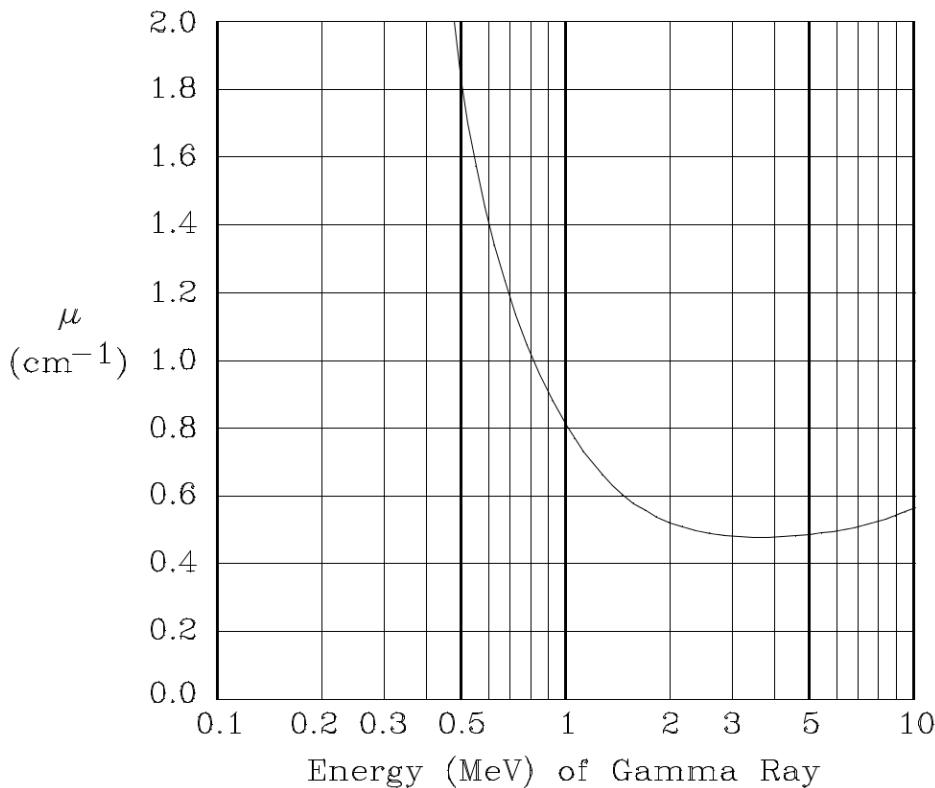

Figure 6: Linear Absorption Coefficient for gamma rays in lead as a function of energy.
The probability of each of the three processes taking place in a given thickness of material depends on the energy of the photon and the atomic structure of the material. The *total* probability for interaction of photons in Pb, i.e., the sum of the probabilities of the three processes, varies with photon energy as indicated in Figure 6. The ordinate plotted on the graph is  $\mu$ , the **total linear absorption coefficient** in units of  $\text{cm}^{-1}$ . It is defined by the equation:
7. From your slope, find the absorption coefficient  $\mu$  with error found by propagating uncertainties in the slope of your plot. Use your calculated value of  $\mu$  and Figure 6 to estimate the energy of the gamma rays with error.